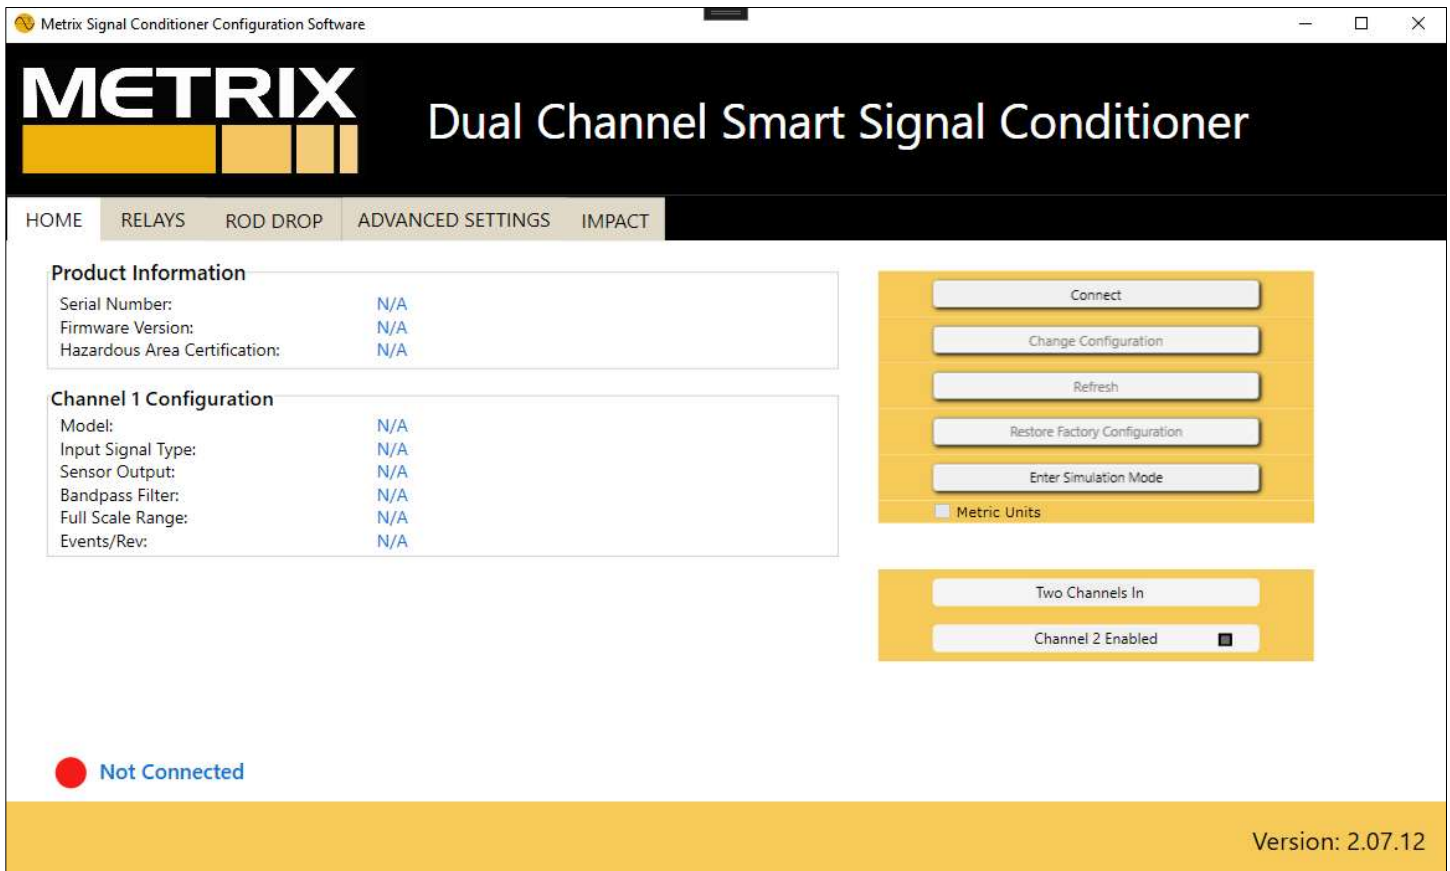

Figure 2: USB cable is connected, “Connect” button is enabled.
2. Application will be displayed as seen in Figure 2.